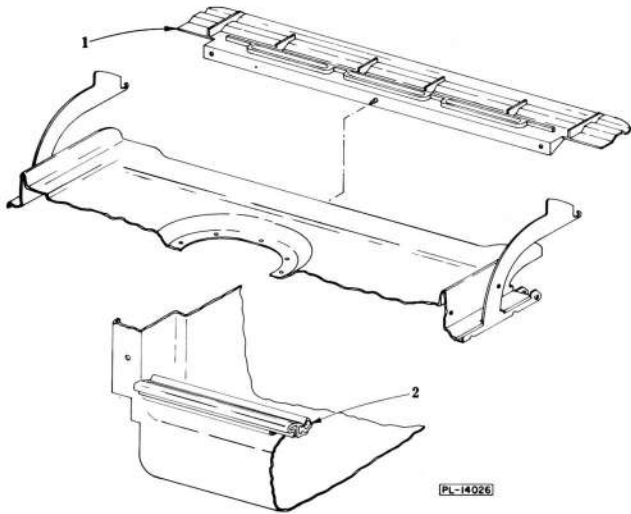

Fig. 43
7. Remove three retaining screws holding lower baffle (1, Fig. 43) to lower edge of the door.
5. Remove tank seal (2, Fig. 43) by pulling on end.